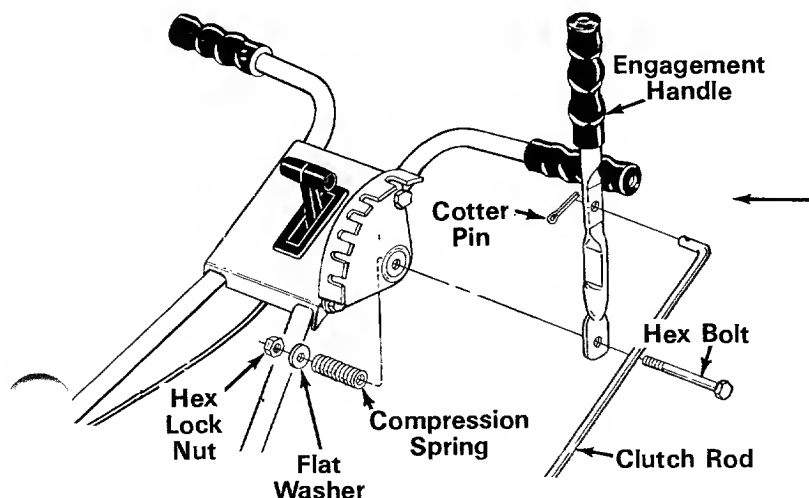

FIGURE 9
1. Place hex bolt 1-3/4" long through bottom hole in engagement handle as shown in figure 9, then through hole in adjustment bracket.
3. Secure bent end of clutch rod half to engagement handle with one cotter pin. See figure 9.